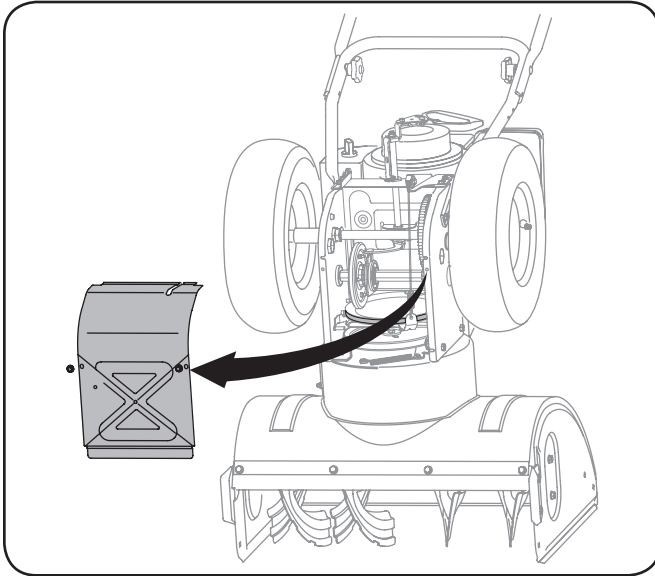

Figure 6-3
3. Remove the frame cover from the underside of the snow thrower by removing the self-tapping screws which secure it. Refer to Fig 6-3.